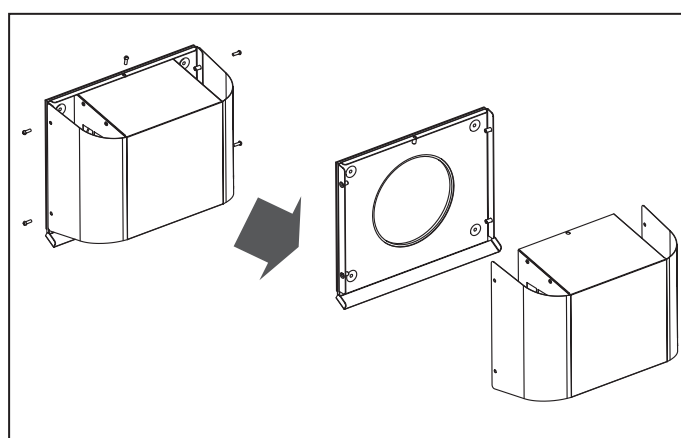

Fig. 12b.
- Fig. 12b - models VENTO A50 S / A50-1 S. Loosen these 5 screws and take off the upper part of the outer ventilation hood.